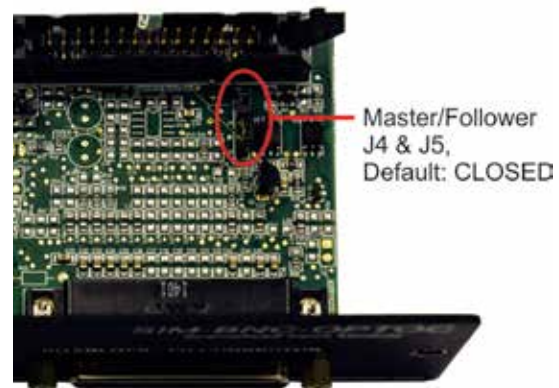

Figure B.2.32 – SIM-BNC-OPTOC Master/Follower Jumpers Location
1. Refer to **Figure B.2.32** to locate the Master/Follower jumpers on the SIM-BNC-OPTOC card.